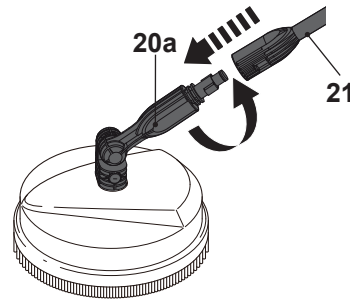

Fig. 27
> Remove the patio brush (20) from the extension lance (21) after use (Fig. 27).